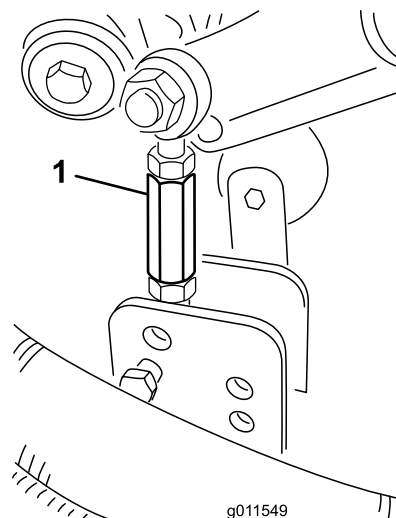
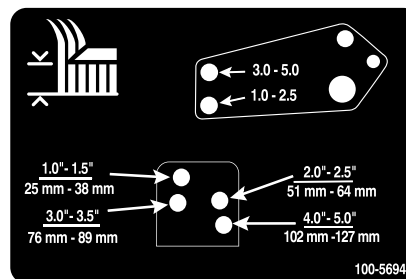

Figure 26
Figure 27
8. Remove the hairpin cotters and clevis pins securing the damper links to the cutting unit brackets (Figure 26). Align the damper link holes with the selected height-of-cut bracket holes in the cutting unit frame (Figure 27), insert the clevis pins, and install the hairpin cotters.